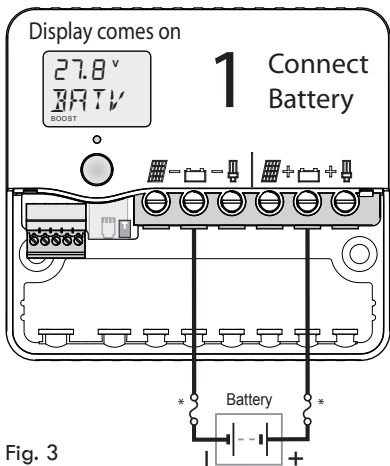

Fig. 3
- a. Connect the battery first. Positive to Battery+, Negative to Battery -. If the display comes on, then connection is correct. (see figure 3)